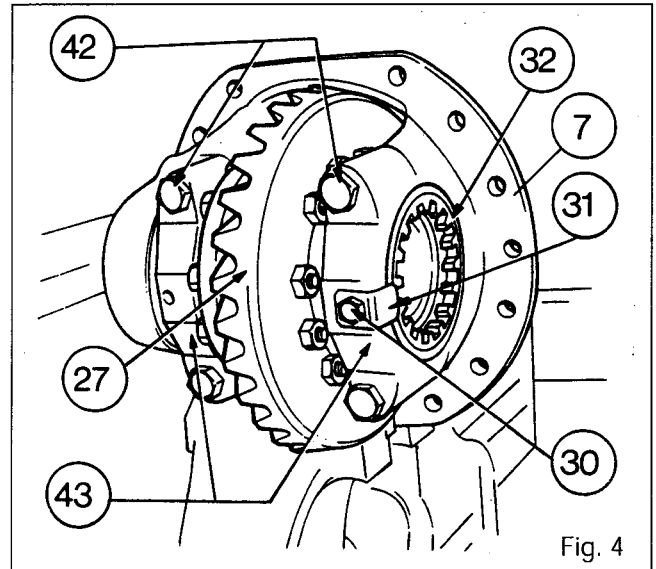

Fig. 4
11. Place the housing (7) in a soft-jawed vice (Fig. 4).
12. Remove the bolt (30) and its retainer (31) (Fig. 4).
13. Remove the splined nut (32) using the special locally-manufactured wrench (see Section M).
14. Remove the four bolts (42), and remove the half bearings (43) (Fig. 4).